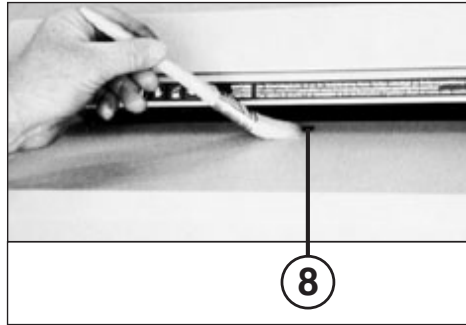

Fig. 5
CLEANING THE PHOTOCELLS (8) (Fig. 5):